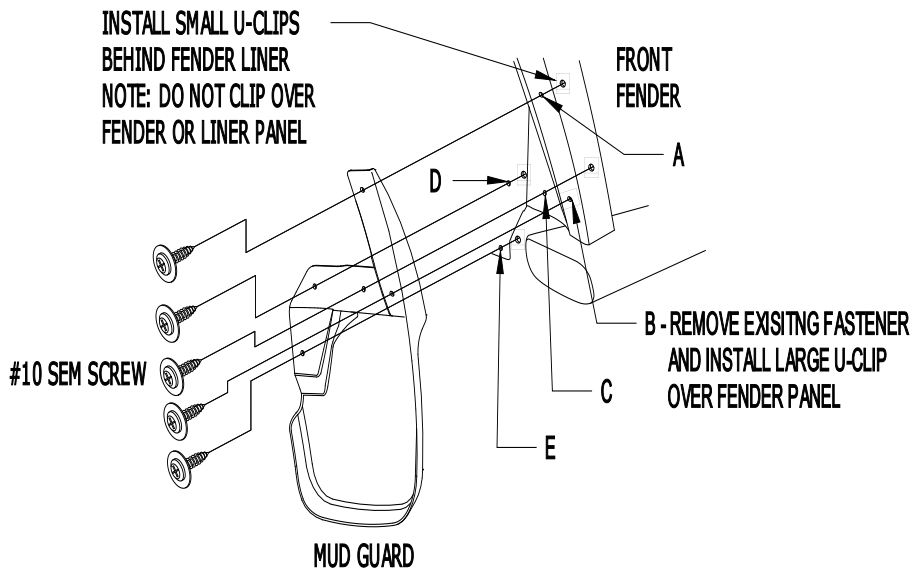

Figure 1
1. Remove the existing fastener from location B (Figure 1).
2. Install a Large U-Clip at location B. Attach the Mud Guard at location B with a #10 SEM Screw. Check the Mud Guard fit and appearance before tightening (see Figure 1).
4. Install #10 SEM Screws at locations A, C, D and E, through the mud guard, fender and/or fender liner and into Small U-Clips. NOTE: The Small U-Clips are used as nuts and install on the backside of the fender and/or fender liner. Do not clip over the fender or liner panel (see Figure 1).